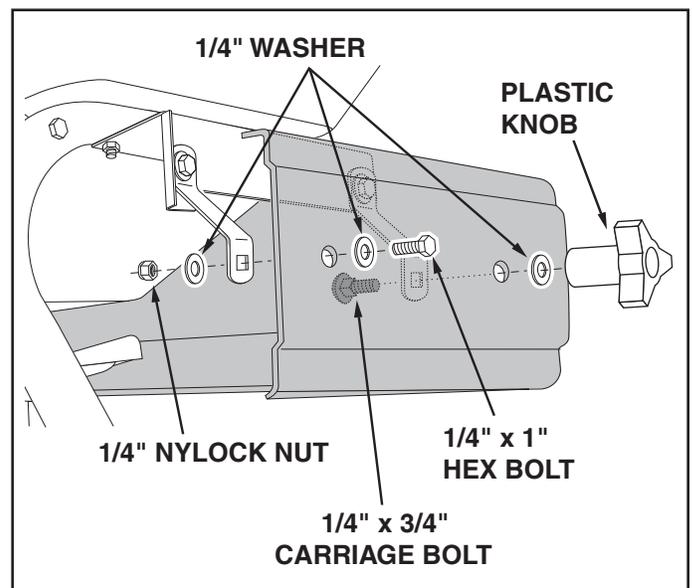

FIGURE 7
- Insert the 1/8" hairpin agitator into the middle hole in the spreader shaft. See figure 7.
- Slide the end of the spreader shaft through the plastic bushing in the bottom of the hopper. See figure 7.
- Slide the impeller onto the spreader shaft and secure it with a 1/8" x 1-1/4" cotter pin. See figure 7.